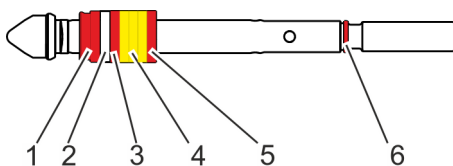

Fig. 44: Stem with stuffing box elements
16. Take the O-ring (Fig. 44/6) off of the stem.
17. Take the chamber ring (Fig. 44/5) off of the stem.
18. Take the packing ring (Fig. 44/4) off of the stem.
19. Take the chamber ring (Fig. 44/3) off of the stem.
20. Take the bottom ring (Fig. 44/2) off of the stem.
21. Take the backseat ring (Fig. 44/1) off of the stem.